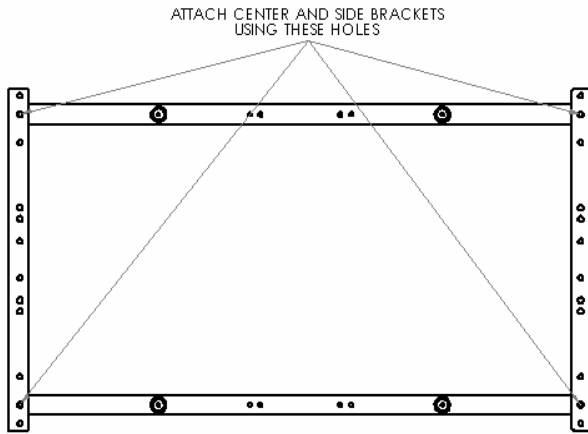
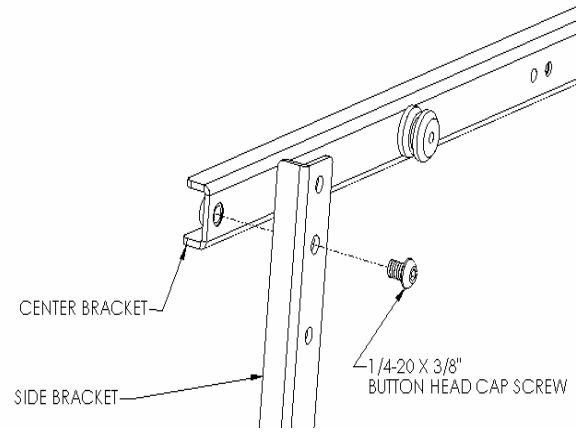

Figure 3
Figure 4
2. Attach center brackets to side brackets using the 1/4-20 screws (see Figure 3 and Figure 4).